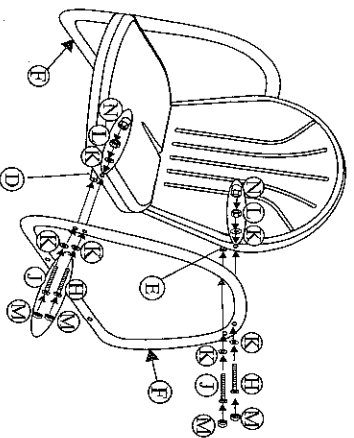

Figure 2
Step 3 : Attach glider arm to glider seat (B) and glider back (A) using 1/4" x 3.7mm bolts(H), 1/4" x 40mm bolts(J), 6.5 x 1.0 washers(K), and 1/4" nuts(L) as shown in *Figure 2*. Note that the 1/4" x 3.7mm bolts(H) are inserted into the top of the pair of holes on both the glider back and glider seat. Tighten with hex wrench(P) and hex bolt driver(Q). **Do not over tighten.** Repeat for remaining glider arm. Cover nuts and bolts with covers(M&N).